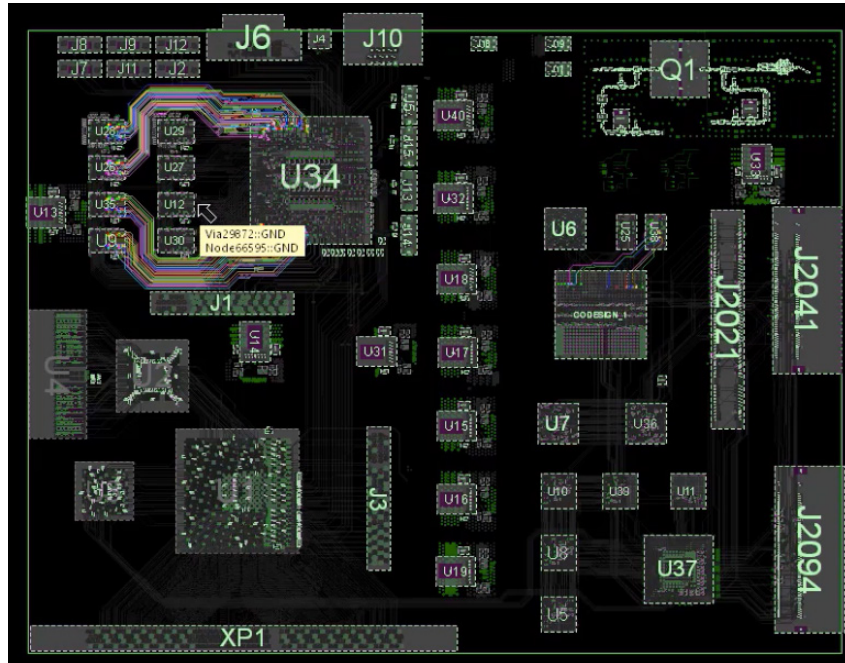

Figure 17: DDR interface selected in PowerSI technology
- Figure 17 shows the DDR interface fully selected. The ports of interest are at the top left.